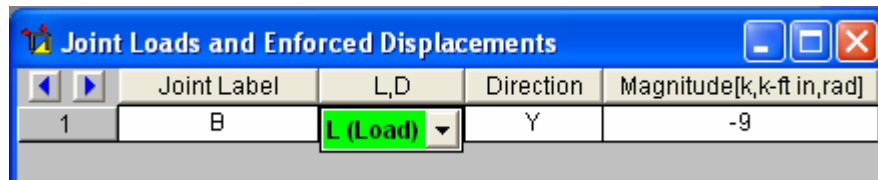

Figure 10
- (10) Joint loads are specified in this step. Only a 9-kip vertical load is applied at joint B. Click **Joint Loads** from the **Data Entry** toolbar. Specify the joint label in the first column of the **Joint Loads and Enforced Displacements** spreadsheet (see Figure 10). Specify **L (Load)** in the second column. The direction of load, which is in the **Y** direction for vertical load, is specified in the third column. The magnitude of the vertical load is specified in the fourth column. Because the vertical load acts in the downward direction, which is in the negative Y direction, the magnitude of the joint load is -9 . [You can specify **D (Displacement)** in the second column for problems that involve support settlements.] Also see Step 14 for graphic input of loads.